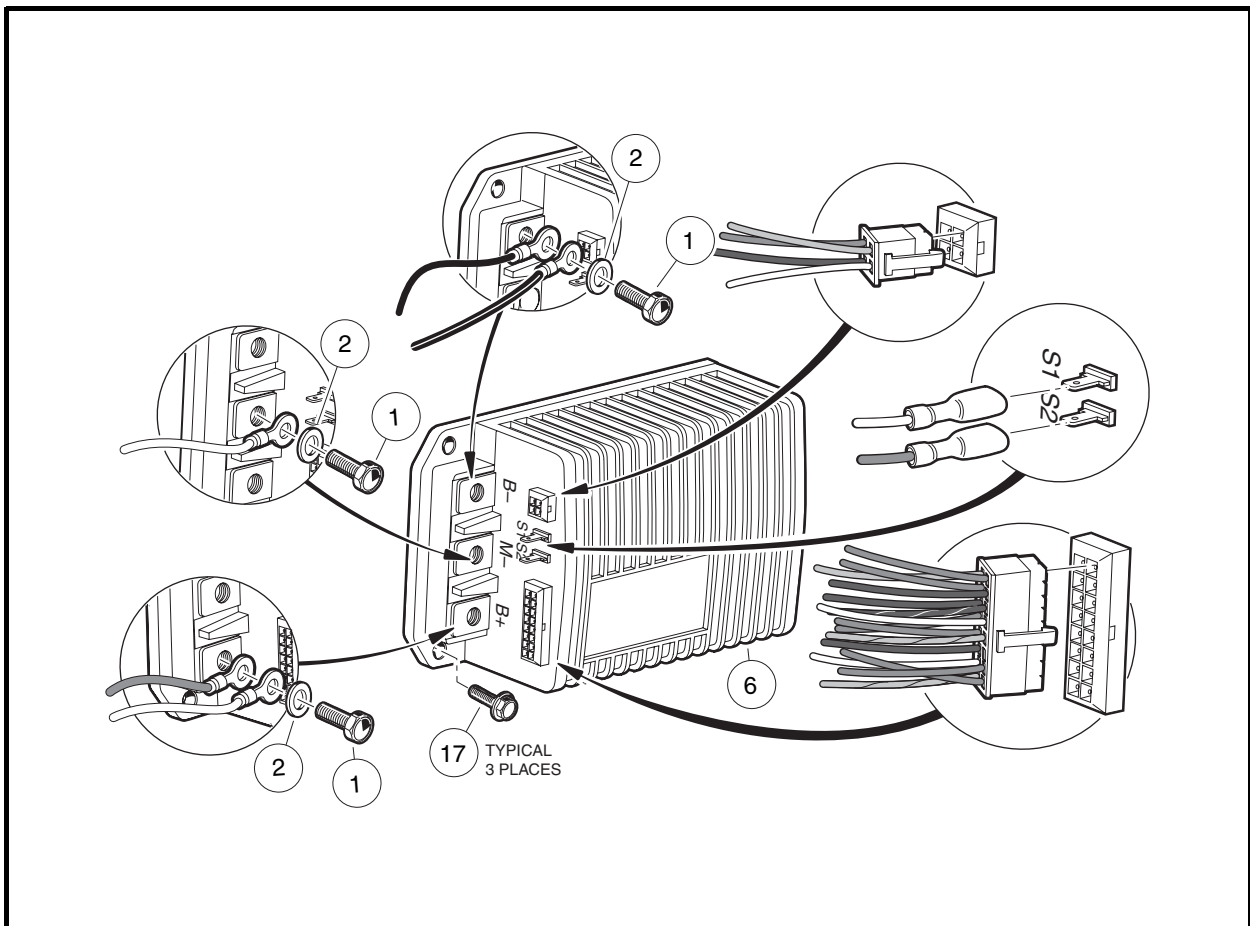

Figure 19-8 Speed Controller
4. Disconnect all wires and multi-pin connectors from the speed controller (**Figure 19-8, Page 19-9**).
5. Remove the three self-tapping screws (17) that hold the controller (6) to the component mounting plate and remove the controller from the vehicle.
1. Install the three self-tapping screws (17) that hold the controller (6) to the component mounting plate and tighten to 60 in-lb (6.8 N·m) (**Figure 19-8, Page 19-9**).
2. Using the wiring diagram, install the multi-pin connectors and all wires as illustrated. **See Wiring Diagram, Section 18, Page 18-2**. Tighten bolts (1) to 9 ft-lb (12.2 N·m) (**Figure 19-8, Page 19-9**).